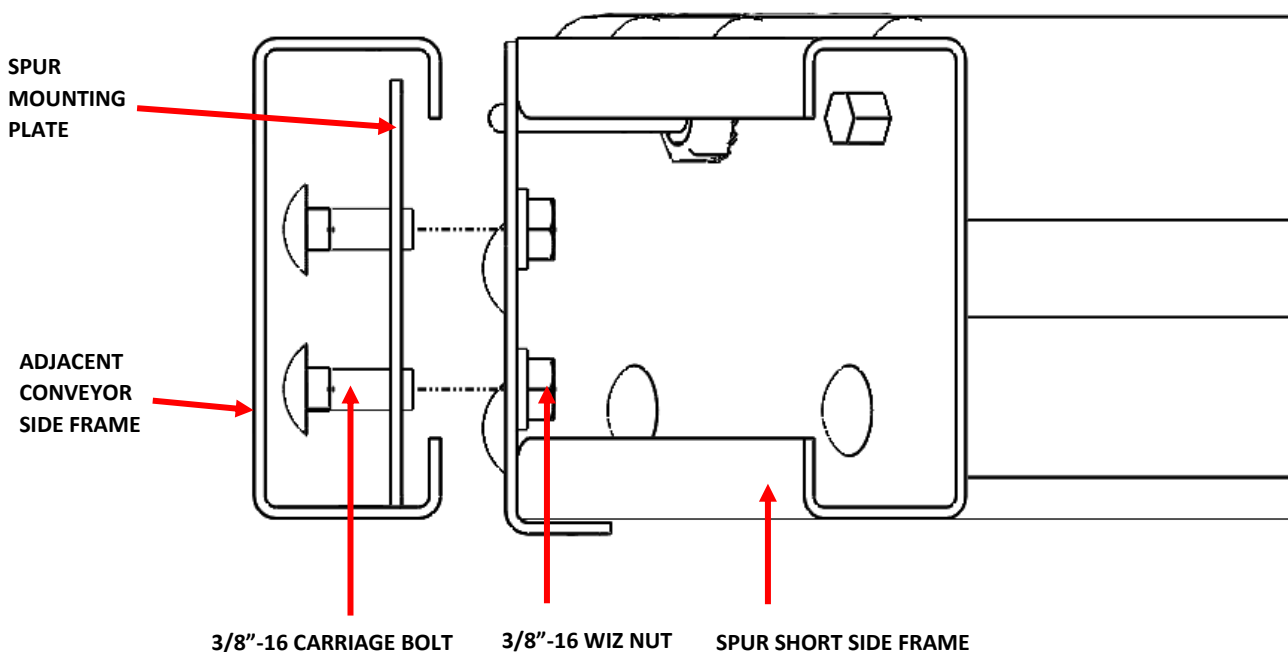

Figure 5: Mounting Spur to Adjacent Conveyor
Figure 5: Mounting Spur to Adjacent Conveyor	11
7. Attach Spur to adjacent conveyor using two mounting plates as shown in Figure 5. The mounting plates fit inside the side frame of the adjacent conveyor and clamp to spur using 3/8"-16 carriage bolts and wiz nuts. Torque bolts to 26 ft-lbs.